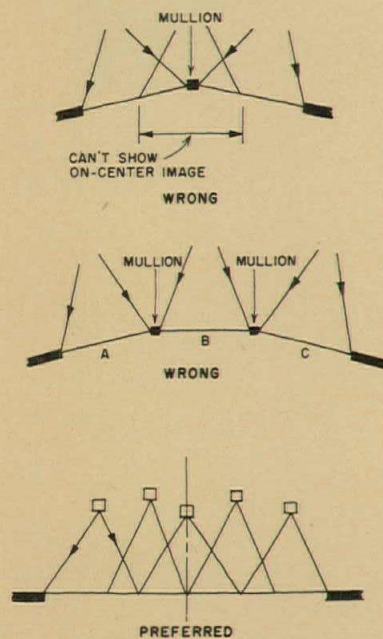

Figure 25: The use of mullions is not recommended
7. Sometimes dual image screens are angled, with a mullion in the center, figure 25(a). This permits wider sector viewing, but the idea is bad because a single picture cannot ever be shown on center, which is disturbing during a long reel or presentation. The arrangement shown in fig 25(b) permits a center picture, but now prevents dual images to be shown side by side at room center. Showing dual images on screens A and C, and skipping B, gives viewing "ping-pong" head movement. A straight screen, no mullions, is preferred, figure 25(c). This can handle one, two, or three images centered on room center line.